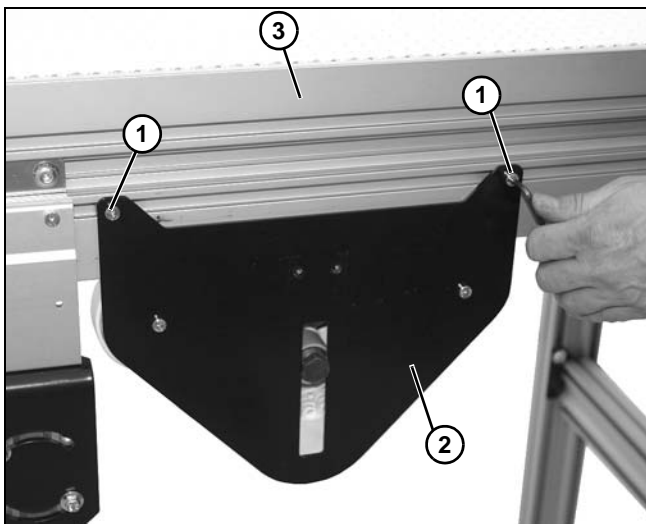

Figure 120
2. Remove two socket head screws (**Figure 120, item 1**) holding weighted take-up assembly (**Figure 120, item 2**) to conveyor frame (**Figure 120, item 3**).